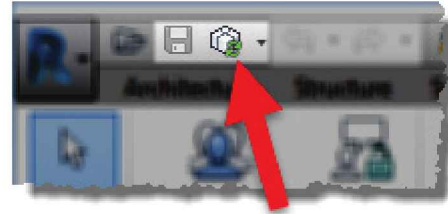

FIGURE 17-4.6 Sync with Central
On the Quick Access Toolbar, notice the regular Save icon is now grayed out and the icon to the right, **Synchronize with Central**, is active (Figure 17-4.6). In the future, keep in mind that this is a clue that you are in the Central File—which you should not be in. **In fact, once this file is closed, you typically never need to open it directly again.**
6. Click **Synchronize with Central** on the QAT (Figure 17-4.6).